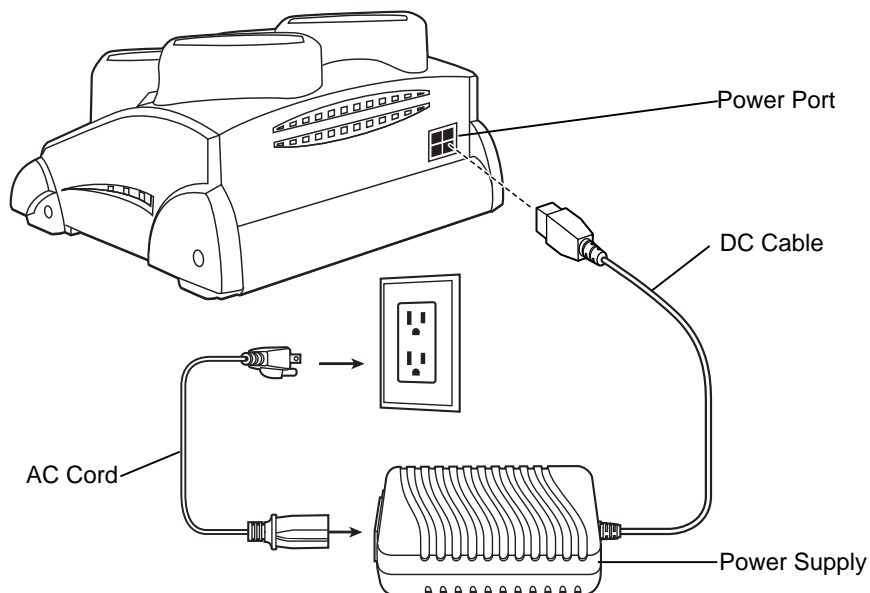

Figure 2-18 Four Slot Spare Battery Charger Power Connection
1. Connect the charger to a power source as shown in Figure 2-18.